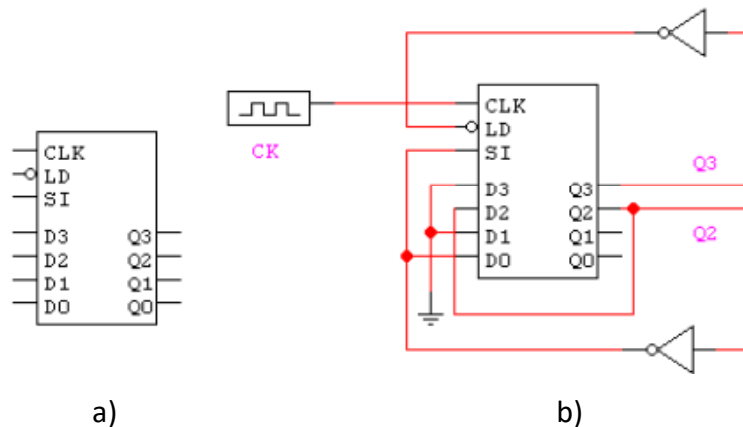

Fig. 1 – a) – a 4-bit shift register; b) – application of the shift register in a counting circuit.
9. [Paper and pencil + *Quartus Prime*]. Design a delay line of length N , where N ranges from 1 to 16. The desired delay is specified with four inputs: $A_3 A_2 A_1 A_0$ containing the unsigned binary representation of $N-1$. You may only use 4-bit shift registers (similar to those shown in Fig. 1) and multiplexers 4:1. Try to minimize the number of used components.